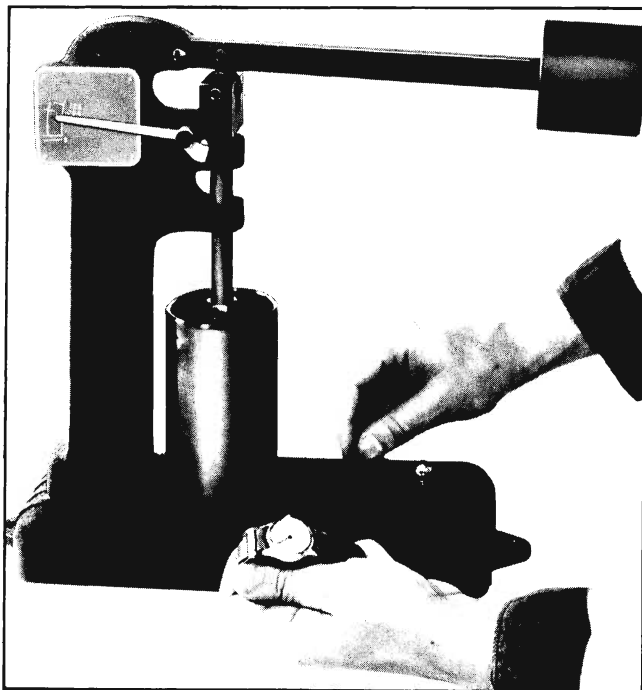

Fig. 6-25 Testing Leak Down Rate
After all lifters have been assembled, the leak down rate must be checked before they are installed in the engine. Valve Lifter Leak Down Tester J-5790 (Fig. 6-25) is designed to test leak down rate of lifters to determine whether or not they are within specified limits. As with previous service operations concerned with lifters, cleanliness is paramount. The tester cup, and ram should be thoroughly cleaned, and testing should be done in an area free of dust and dirt. The testing procedure is described in the following steps:
5. Raise weight arm to allow plunger spring to expand fully; lower arm onto ram and commence turning crank slowly (1 revolution every 2 seconds). Time indicator travel from lower line (first line above set line) to line marked $.125''$ or $\frac{1}{8}''$, while still rotating cup with crank (Fig. 6-25). Lifter is satisfactory if rate is between 12 and 60 seconds.